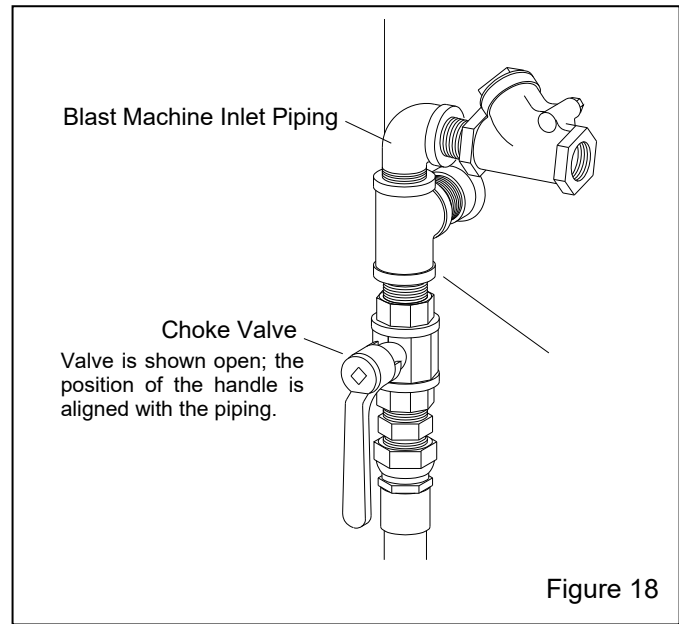

Figure 18
### 4.6 Operation and Function of the Choke Valve Figure 18
**4.6.1** Always fully open the choke valve while blasting; open is when the handle is vertical and aligned with the piping, as shown in Figure 18.